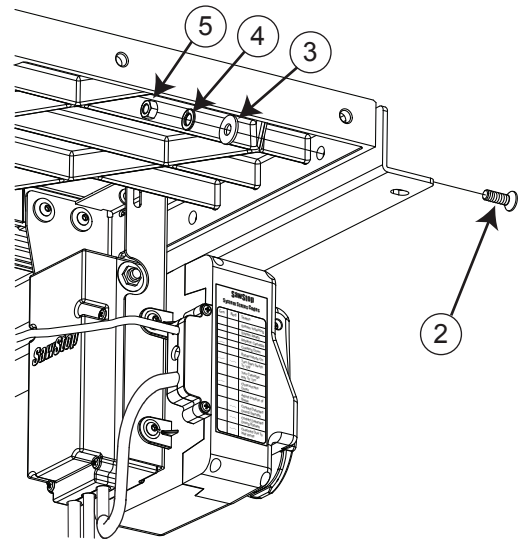

Fig. 4
4. Place an M8x23x2 washer and an M8 lock washer on the back of each of the M8x1.25x25 flat head socket bolts that extend through the extension wings, and then thread an M8x1.25 hex nut on each bolt (see Fig. 4). Hand tighten the nuts; do not fully tighten them.